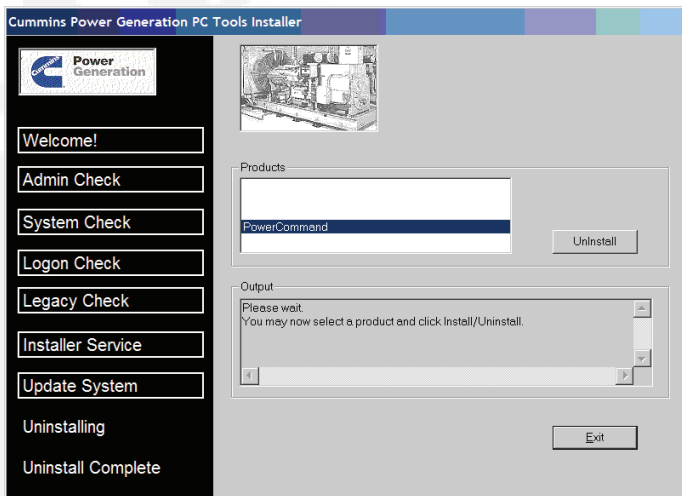

FIGURE A-3. CPG GROUP UNINSTALLER
11. When the *CPG PC Tools Installer* window is displayed, select Power-Command the *Products* list, and then click on the **Uninstall** button. Figure A-3.